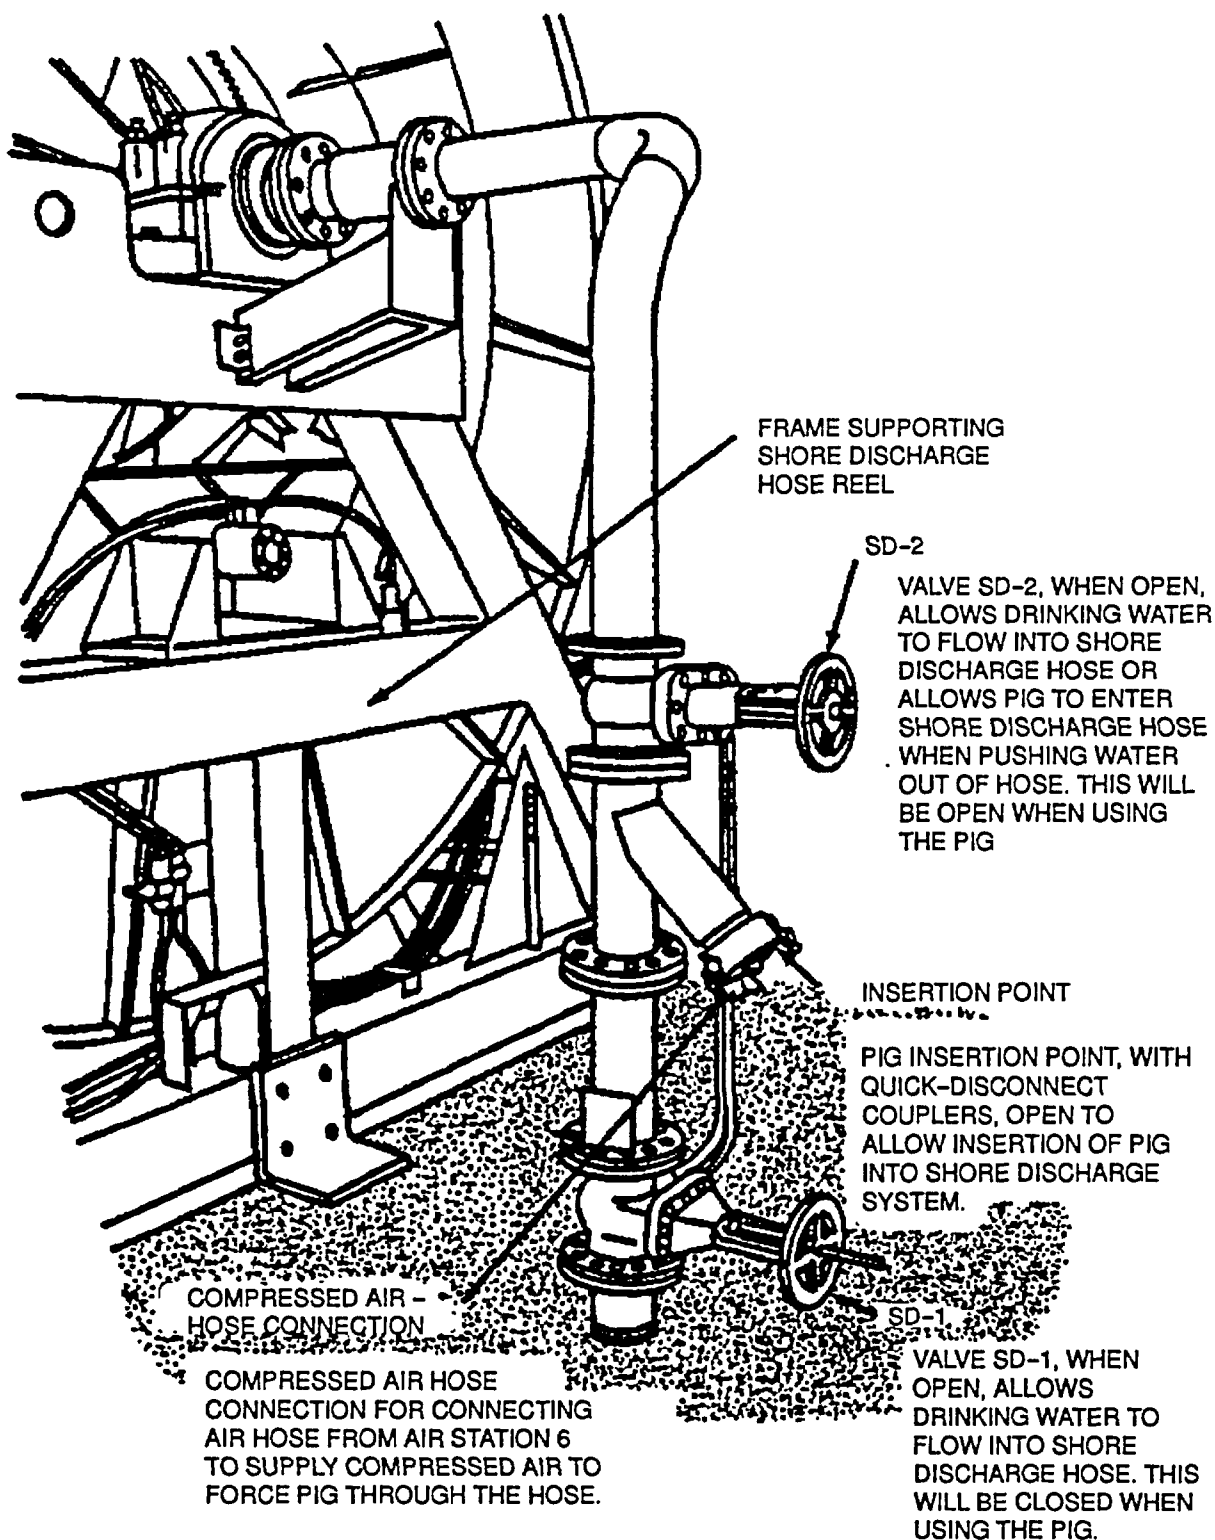

Figure 12-9. PIG Launcher Controls
- c. On PIG launcher insertion point, unlock two quick disconnect couplers and pull cap off insertion tube (Figure 12-9). Insert clean PIG into tube, replace cap, and lock two quick disconnect couplers.
- d. Connect designated 25-foot air hose to compressed air station 6 quick disconnect coupling and to compressed air fitting on PIG insertion point cap (Figure 12-9).